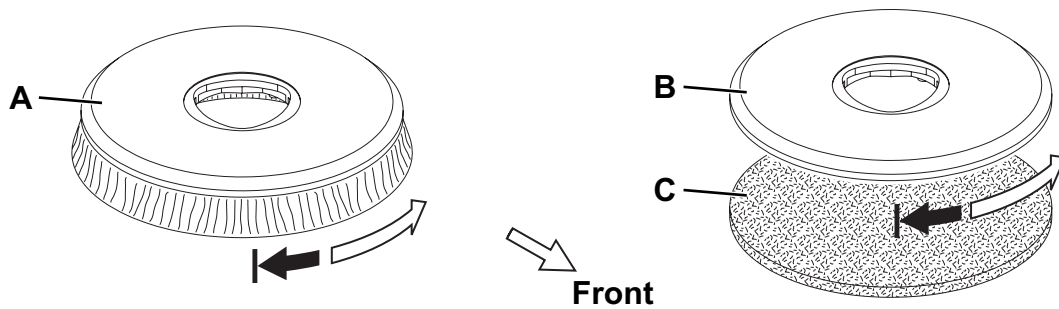

Figure 1
Install either the brush (A, Fig. 1) or the pad-holder (B and C) according to the type of floor to be cleaned.
2. Lift the brush/pad-holder deck (13) by prying the handlebar (2).
3. Place the brush (A, Fig. 1) or the pad-holder (B - C) under the deck.
4. Lower the deck (13) by using the handlebar (2).
5. To turn on the machine, turn the switch (41) to "I".
6. Press the push-button (43) for a few seconds, to engage the brush/pad-holder to the deck hub (13). If necessary, repeat the procedure until the brush/pad-holder is engaged.